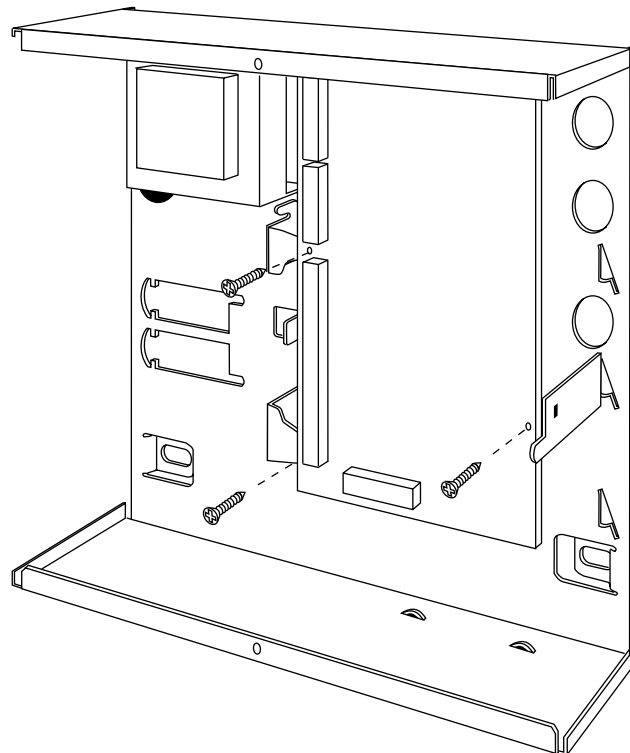

Figure 15. Fitting Control Unit PCB.
6. Re-fit the PCB to the support pillars. Secure the PCB to the support pillars with the screws provided (Figure 15). Make sure that the bottom left corner of the PCB is seated on its support pillar.